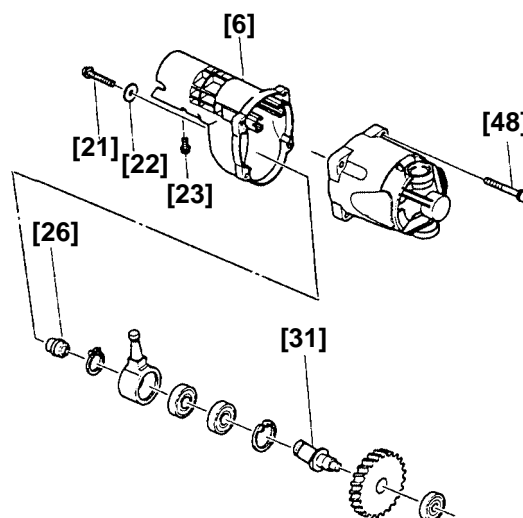

Fig. 2
(2) Removal of Gear Cover (B) **[6]** (Figs. 2 and 3)